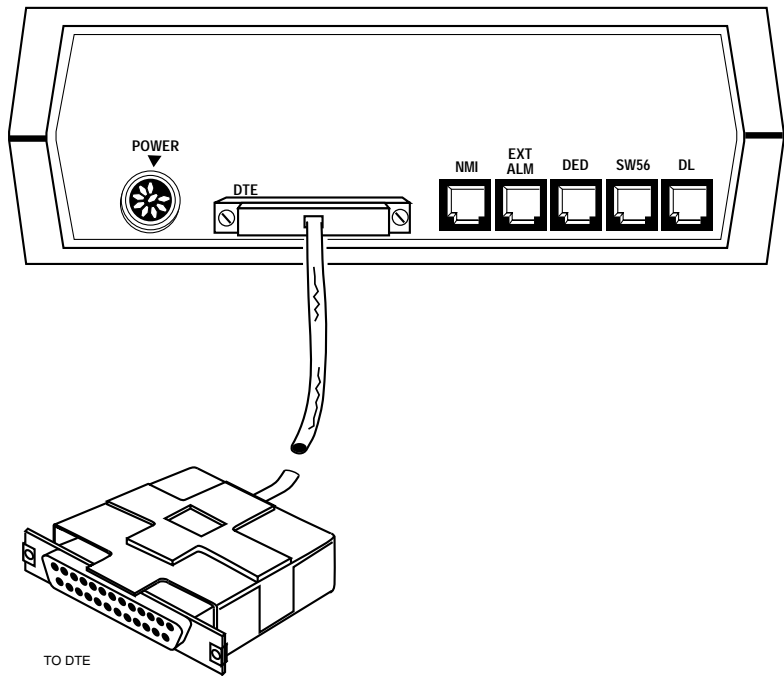

Figure 3-2. RS-232 DTE Connection
- **RS-232-E** - Use a standard EIA RS-232 cable (25-pin male to 25-pin female) to make this connection. This cable is typically supplied with the DTE. To connect to the DTE, plug the male end of the cable into the DAP and plug the female end into the DTE. Figure 3-2 illustrates this connection. Table 3-1 lists the pin/signal assignments for this connector.